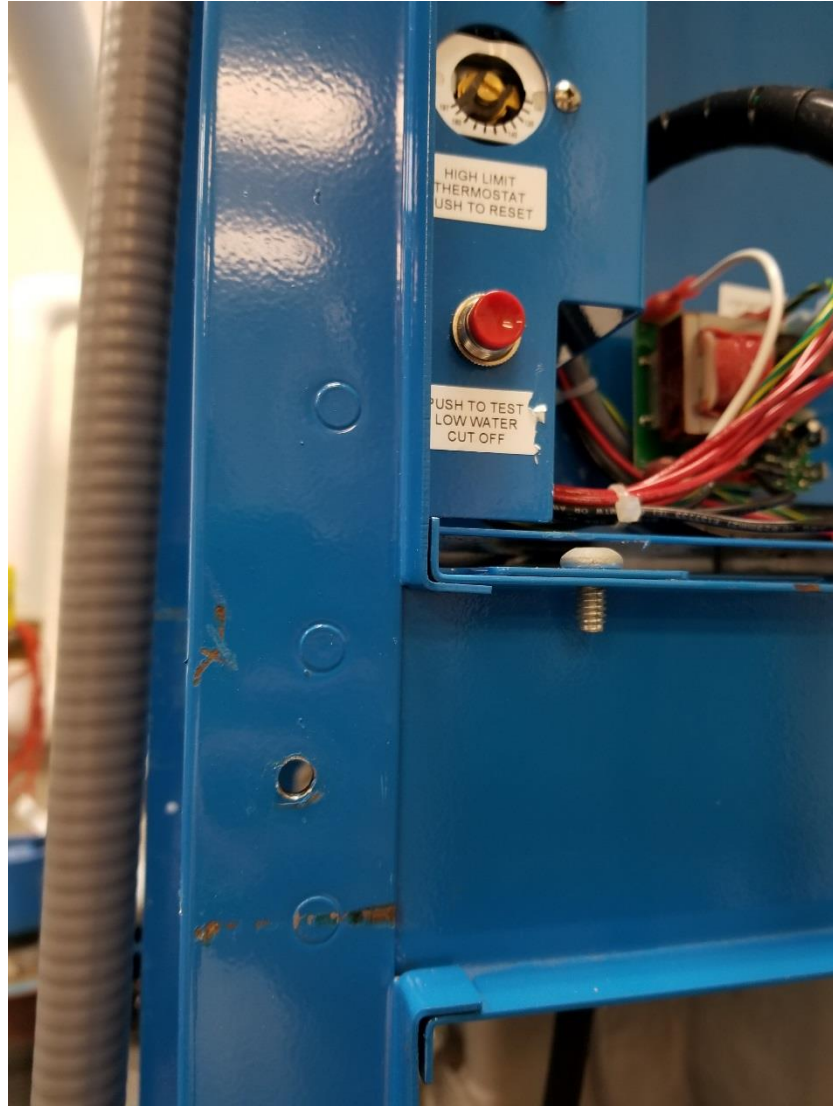

Figure 15
16. Knock/Drill studs out from front top left side of frame shown in figure 15.